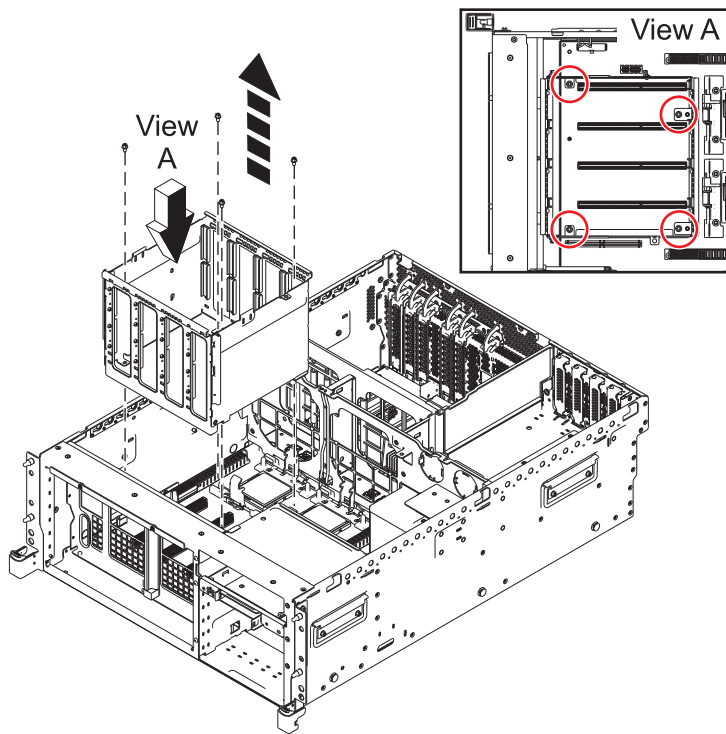

Figure 7. Removing the DIMM cage
- a. Remove the four screws that secure the DIMM cage (**View A**). See Figure 7 on page 12.